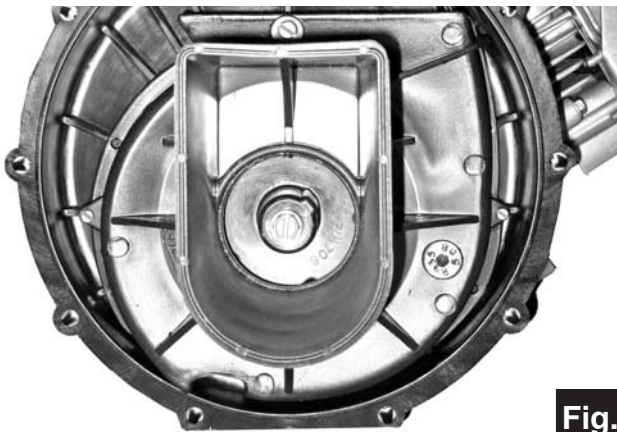

Fig. 13
9) Position the volute (Ref. #17) over the impeller so that the bracket dowels fit the holes in the volute. Install the two small self-tapping side volute screws (Ref. #18) and the large self-tapping top volute screw (Ref. #19). Tighten these screws just enough to pull the volute against the bracket (Fig. 13). Over tightening these screws can strip the threads.